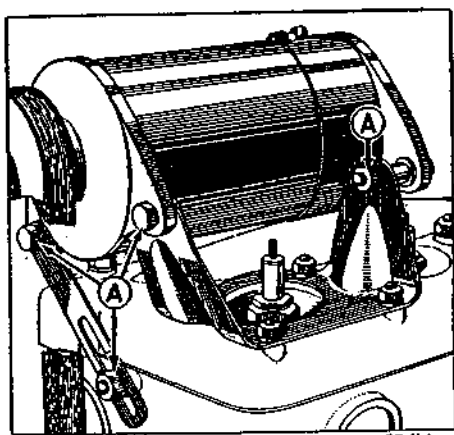

Fig. 2.
The belt should be just sufficiently tight to prevent slip, yet it should be possible to move the belt laterally about one inch each way. To make the adjustment, slacken the bolts (A) indicated in Fig. 2, which hold the dynamo in position, and raise or lower the dynamo until the desired tension of the belt is obtained. Then securely lock the dynamo in position again.